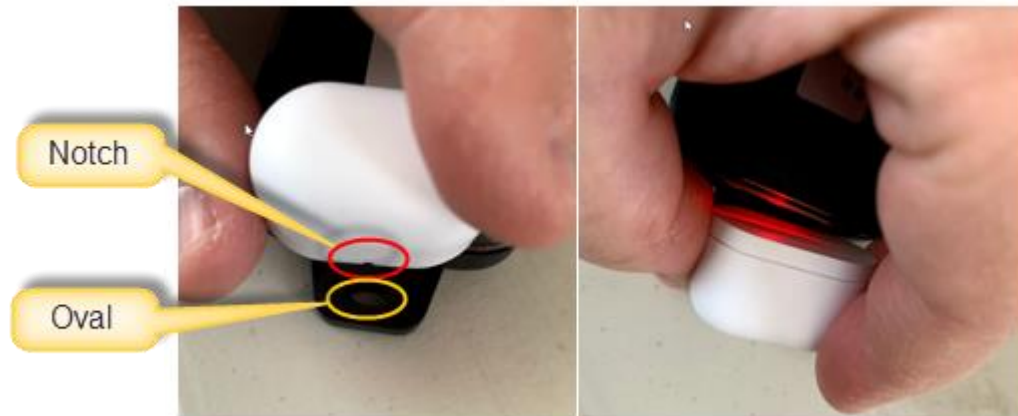

Figure 5: Tracker in BLE Pairing Mode
3) Put your LoRa Edge Tracker Reference Design device in BLE pairing mode by placing the provided magnet with the notch side down against the oval hole on the device, and then place the flat side of the magnet directly against the device, as illustrated in Figure 5.